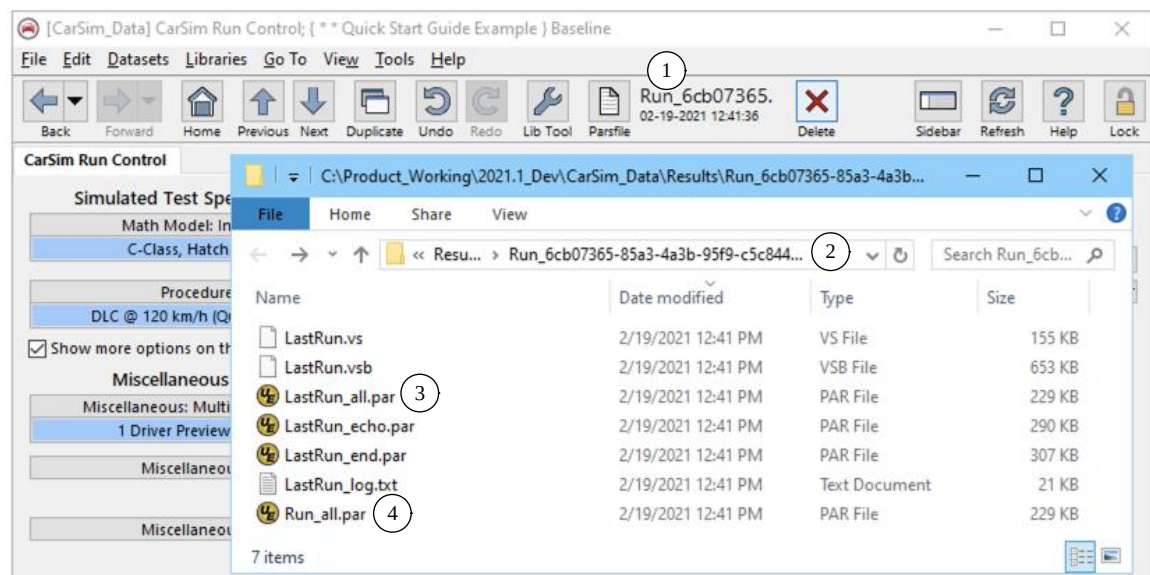

Figure 31. Each Run Control dataset is linked to a folder with simulation results.
Figure 31 shows the Results folder for a typical run. The new folder is itself located in a folder named **Results**. It has the name **Run_uuid**, where **uuid** is the universally unique ID number used
4. A copy of the Run_all.par file is made with a name consistent with six other files that were generated by the VS Math Model, e.g., LastRun_all.par ⁽³⁾ (Figure 31, page 25).
The **Run Control** screen has controls to keep results from recent simulations, as described earlier (Figure 11, page 8). When the option selected is to keep only the last run, the text LastRun is used as a file name or prefix, as shown in Figure 31 (page 25).